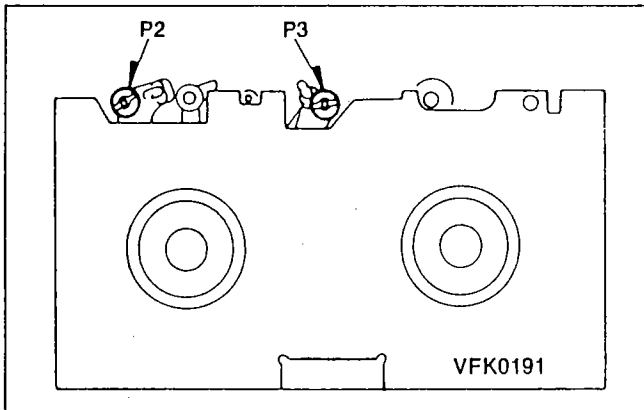

Figure M3
2. Place the Post Adjustment Plate over the reel tables. Confirm that the Post Adjustment Plate is firmly seated as shown in Figure M3.